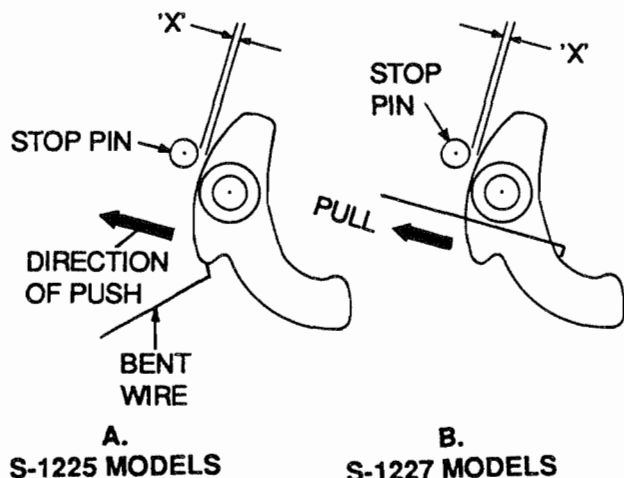

Figure 607. X Value Measurement
- (1) Rotate the impulse coupling so the flyweight axles are next to the stop pins. Position flyweight as shown in Figure 607 (stop pin positioned approximately halfway between toe and heel of flyweight). Lock rotor in place using 11-8465 rotor holding tool.
(4) Insert feeler gage between the stop pin and flyweight to determine clearance ("X" of Figure 607) while the flyweight is forced outward. Maintain constant outward force on the flyweight while measuring clearance to ensure accuracy.